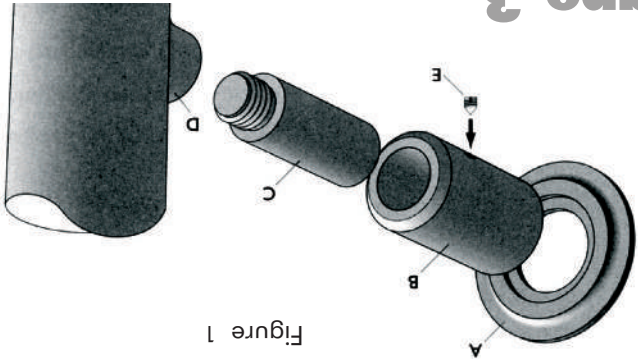

Figure 1
Installation Instructions (see figure 1)
Étape 2 Instructions d'installation (voir figure 1)